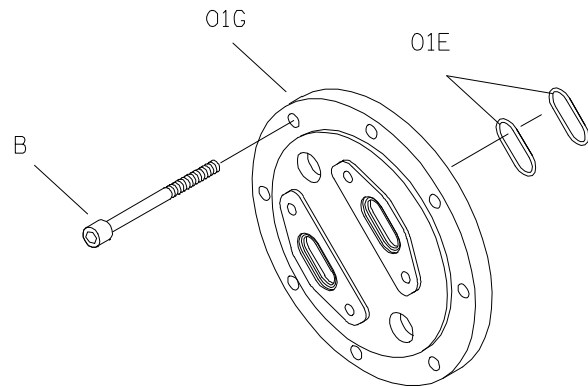

Figure E-2. Typical S Size Head Jacket
If your pump is equipped with an optional head jacket, see Figure E-2 and remove the capscrews (B) securing the head jacket (01G) and O-rings (01E) to the head assembly (01A, Figure E-1).